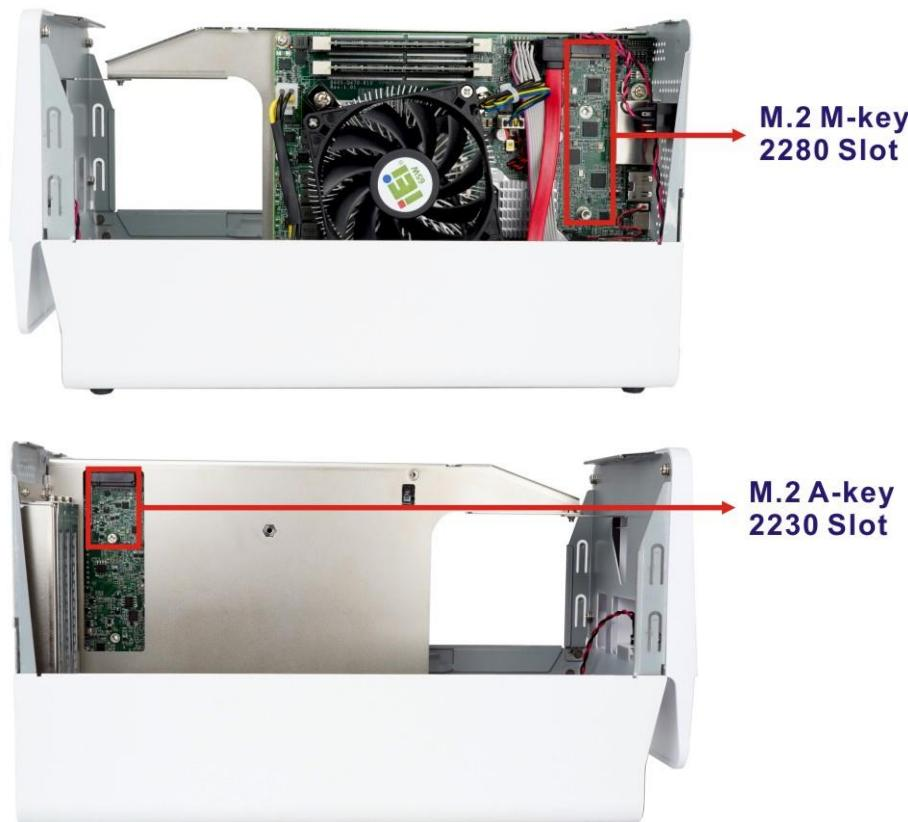

Figure 3-6: M.2 Slot Locations
Step 2: Locate the M.2 slots on the motherboard (Figure 3-6). The M.2 M-key slot is on the front side, and the M.2 A-key slot is on the solder side.